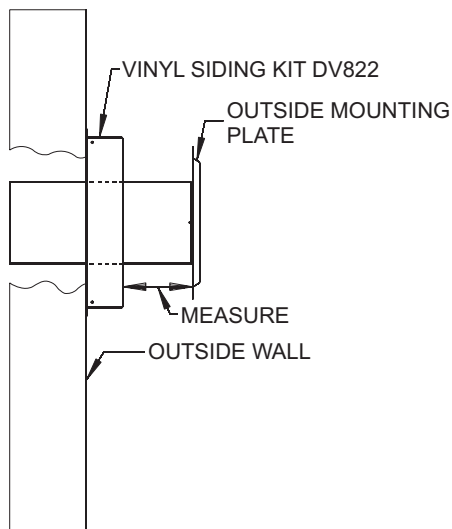

Figure 56
5. Attach the inlet tube to the outside mounting plate. Align tinnerman clips on the tabs of the air inlet tube to the holes on outside mounting plate, and fix with (2) #10 x 1/2" screws.
6. With the vinyl siding kit installed to wall (if necessary), insert the 6 5/8" (168mm) diameter tube with outside mounting plate attached through hole in wall. Connect to collar on fireplace or rigid vent system. Measure between wall or vent cap extension and outside mounting plate (**Figures 56 and 57**).